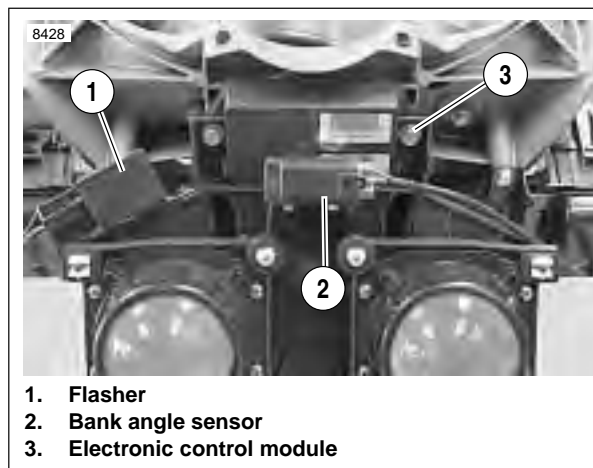

Figure 2-101. Headlight Support Bracket
4. See Figure 2-101. Disconnect flasher (1) and bank angle sensor (2). Remove electronic control module fasteners (3).
1. See Figure 2-101. Remove bank angle sensor (2).
2. Connect headlight bulb (8) connector (white) into wire-harness.
4. Install black rubber cover (4).
5. See Figure 2-101. Install bank angle sensor connector case (2). Tighten to **12-36 in-lbs** (1-4 Nm).
6. Install flasher (1) and tighten to **36-60 in-lbs** (4-6.7 Nm).
7. See Figure 2-101. Install electric control module.
- b. Tighten electronic control module fasteners (3) to **72-96 in-lbs** (8-11 Nm).
8. See Figure 2-101. Connect flasher (1) and bank angle sensor (2).